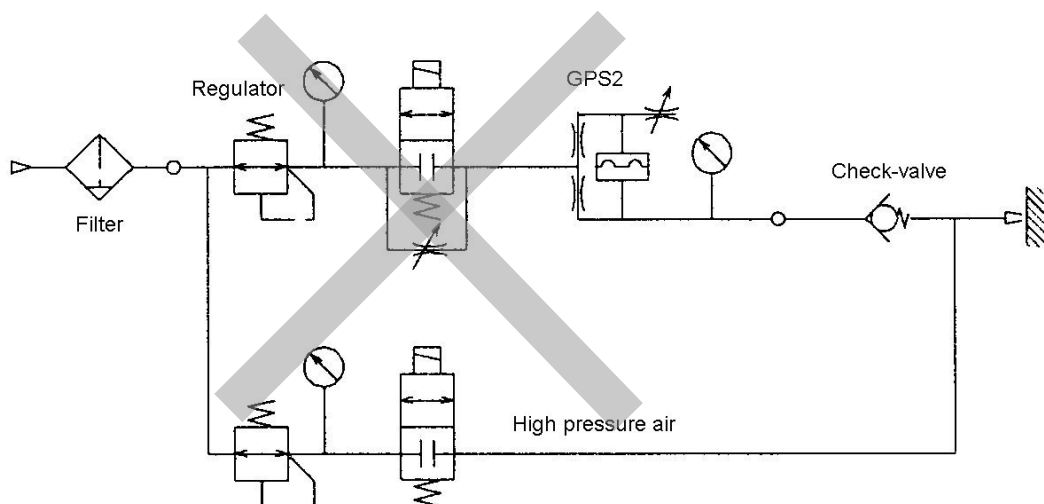

Figure 3 Using check-valve
- 7) If you might perform an air-blow operation at the detection nozzle, do not use the pneumatic circuits given in Figs. 3 and 4. With the circuit given in Fig. 3, the cracking pressure at the check valve may disable detection at the higher end of the detection distance range.